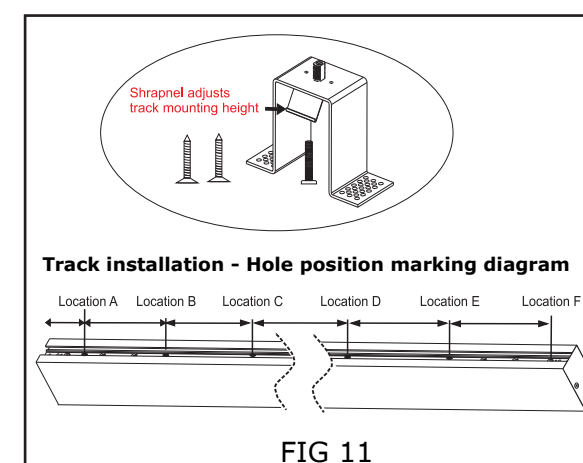

FIG 11
1. Before you install the recessed track, please refer to the hole position mapping diagram (Fig 11), dimension spacing table of the recessed fixing parts and track cut out size in the installation area.